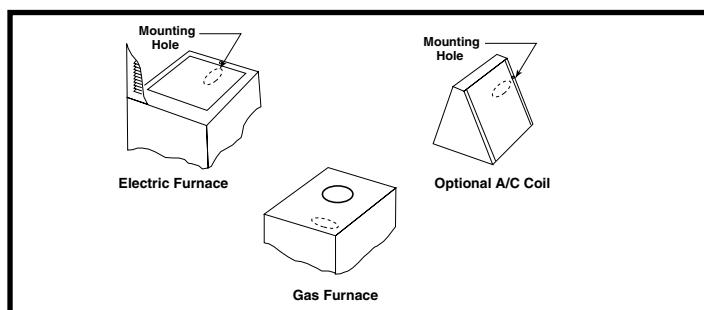

Figure 1. Plastic Inlet Fitting Location
- **Gas Furnace** - Oval knockout located at the top, near the front of the furnace. See Figure 1.